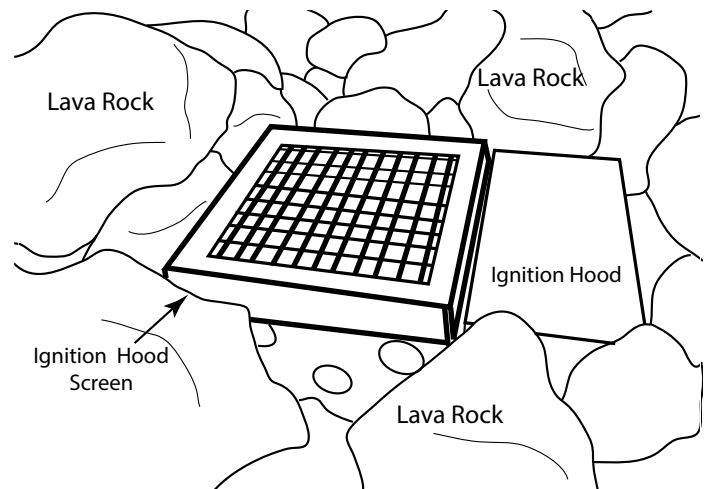

Fig. 17 Installing screen mesh cover on ignitor hood.
Step 10: Install the ignition hood screen mesh and ensure no media lays on the screen mesh area. See Fig. 17. Install the lava rock/media material according to fire pit install manual and turn the main gas supply back ON. Installation is now complete.